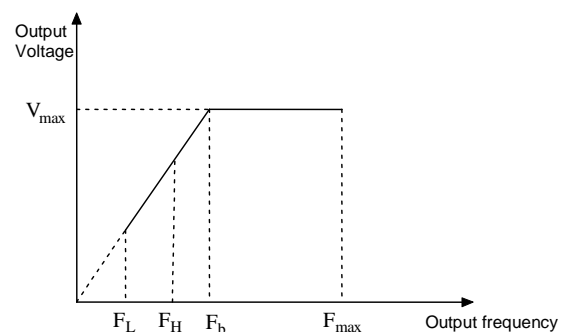

Fig.6-1 Characteristic parameters
Max output frequency is the highest permissible output frequency of the drive, as shown in Fig. 6-1 as F_{\max} ;
Max output voltage is the highest permissible output voltage of the drive, as shown in Fig. 6-1 as V_{\max}
Upper limit of frequency is the highest permissible operating frequency of the user setting, as shown in Fig. 6-1 as F_H .
Lower limit of frequency is the lowest permissible operating frequency of the user setting,as shown in Fig.6-1 as F_L .
Basic operating frequency is the Min. frequency when the drive outputs the max voltage in V/F mode, as shown in Fig. 6-1 as F_b
4. The Max. output frequency, upper limit frequency and lower limit frequency is as shown in Fig.6-1.